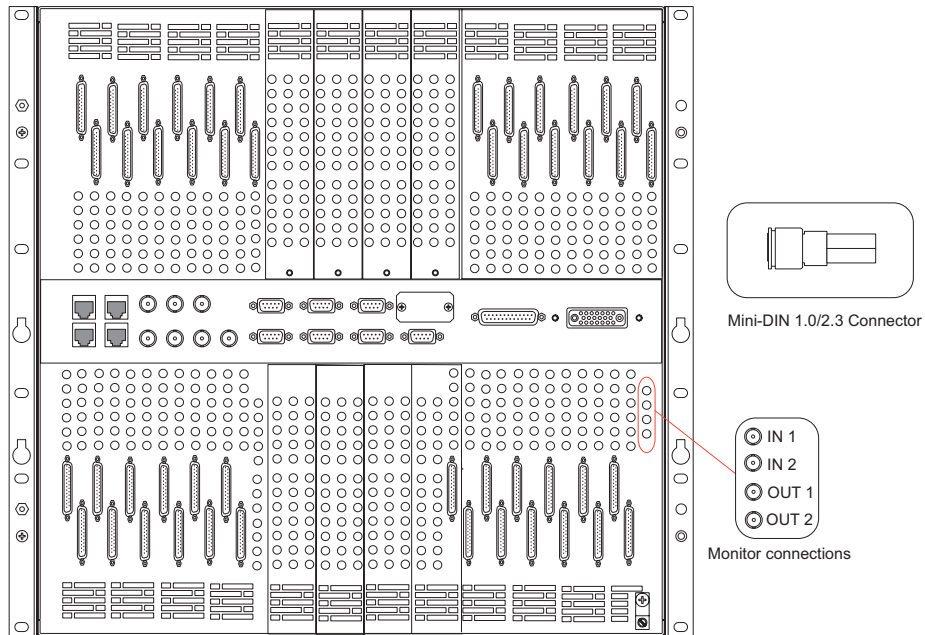

Figure 3-20. Monitor Expansion Connections and DIN 1.0/2.3 Connectors (Rear View) on the NV8288-Plus
- 1 Locate the monitor connections on the rear of the router, as shown in Figure 3-20.